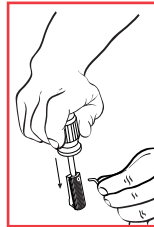

Fig. 15-2
3. While continuing to depress the ILS™ spring cap, remove the takedown pin. (Fig. 15-2)